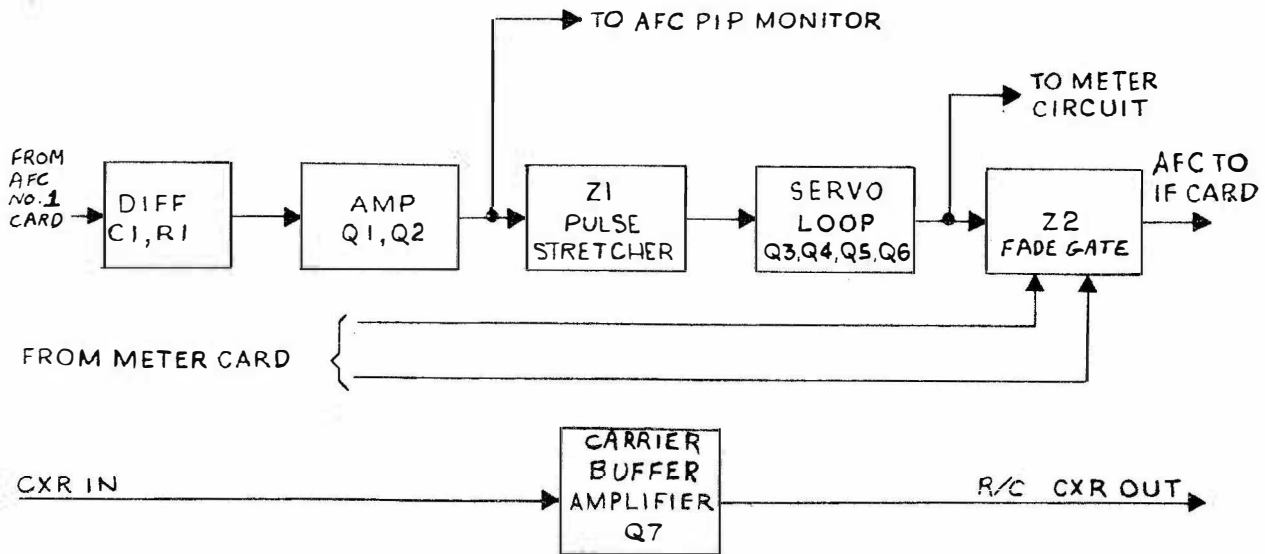

Figure 4-6. AFC Card No. 2 Block Diagram
e. AFC CARD NO. 2 (See Figure 4-6). - The output of AFC Card No. 1 is differentiated by C1, R1, and amplified by amplifier Q1, Q2. The output of the amplifier is applied to circuit Z1 which extracts a dc level from the pulse train. The output of the amplifier also provides a signal to the AFC pip monitor. The output of Z1 is applied to servo loop amplifier Q3, Q4, Q5, Q6 and then via fade gate Z2, to the IF card as the AFC signal.